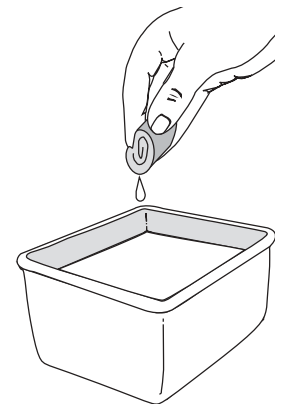

Figure 24
3. Wash the filter in detergent and water. See Figure 24. Rinse the filter thoroughly. Squeeze out excess water. Allow it to dry completely.